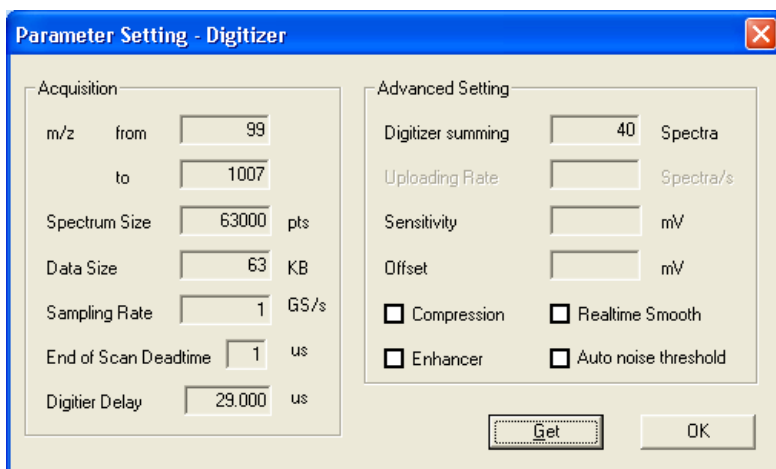

Figure 5-16 Parameter Settings - Digitizer Dialog Box
1. Choose **Tools > Diagnostics > Digitizer** from the menu bar to display the Parameter Settings - Digitizer dialog box (Figure 5-16).